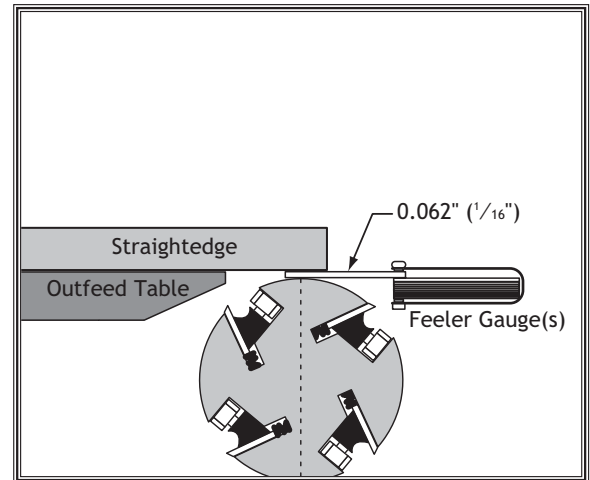

Figure 49. Using feeler gauge(s) to set outfeed table height.
5. Place the straightedge on the outfeed table so it hangs over the cutterhead, and lower the outfeed table until the straightedge is 0.062" above the cutterhead body, as determined by using the feeler gauges (see Figure 49).